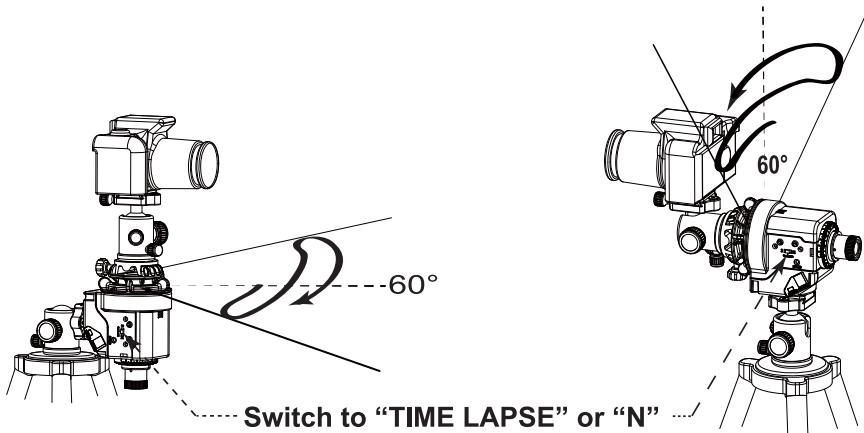

Fig 32
4. **Star Adventurer** will start to rotate to the right with a speed of 2 hour per revolution. When it first reaches  $30^\circ$  it will start to reverse until it reaches  $60^\circ$ . It will repeat the swing within this  $60^\circ$ . (Fig 32). At the same time, it will start to control the camera by activating the camera shutter release function with an interval period of 2 seconds (as if you were pushing on the shutter release button of the camera during 1.5 seconds, and not pushing during 0.5 seconds and pushing again during 1.5 seconds etc.).